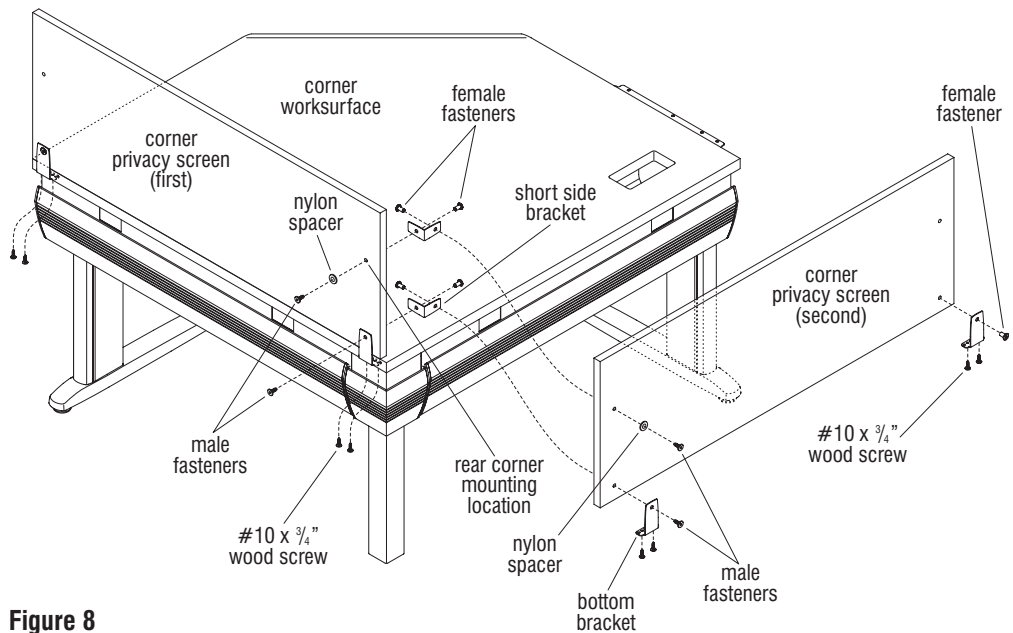

Figure 8
Note: When securing the privacy screens together at side brackets with male/female fasteners, use the larger diameter female fasteners on the inside of the table. This will aid to properly align the corner privacy screens. Also, a nylon spacer is required at any non-bracket attachment side of a divider where a short side bracket is attached using male/female fasteners (Figure 8).
1. To begin installation of the first corner privacy screen, install a bottom bracket to the lower mounting location that is furthest from the rear corner of the table. Use male/female fasteners as illustrated and secure with Torx driver (Figure 8).
2. Next, at the rear corner location of the first corner privacy screen, install a bottom bracket to the outside of the screen and a short side bracket to the inside of the screen. Use male/female fasteners as illustrated to secure (Figure 8).
3. At the inside, upper rear corner mounting location, install a short side bracket using male/female fasteners and nylon spacer to the outside as illustrated (Figure 8).
4. Carefully place the first corner privacy screen into position, aligning the bottom bracket mounting holes with the pre-drilled holes in the underside of the corner worksurface. Secure the bottom brackets using two #10 x 3/4" wood screws per bracket location (Figure 8).
5. For the second corner privacy screen, install all components together the same as the first, and secure to the underside of the corner worksurface, and short side brackets of the first privacy screen as illustrated (Figure 8).